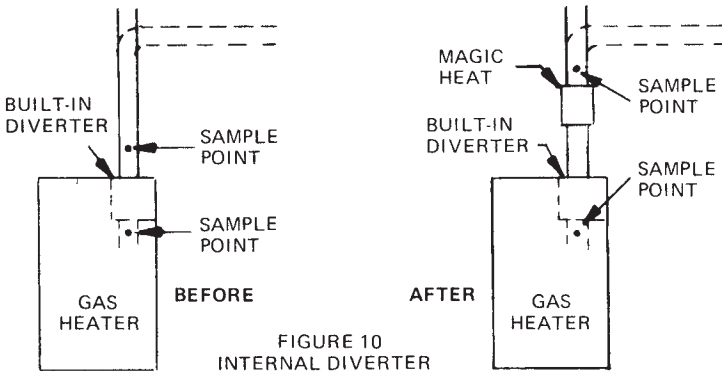

FIGURE 10
1. Check chimney draft with draft gauge when heating equipment is "Off" and while in operation. Draft should be taken at sample points on the furnace or heater side and the chimney side of the air diluter (draft diverter). (See Figures 10 & 11). Record these readings.
2. Check flue gas temperature using a thermometer with unit in operation. This check should be done on both the appliance and chimney side of the draft diverter. (See Figures 10 & 11 for sample points).
The higher the CO₂ reading, the less excess air is being introduced. These checks should be taken at sample points shown (Figures 10 & 11) and recorded with flue gas temperatures and draft readings.
NOTE: Sample points in Figures 10 & 11 are for draft, temperature and Carbon Dioxide (CO₂) readings.